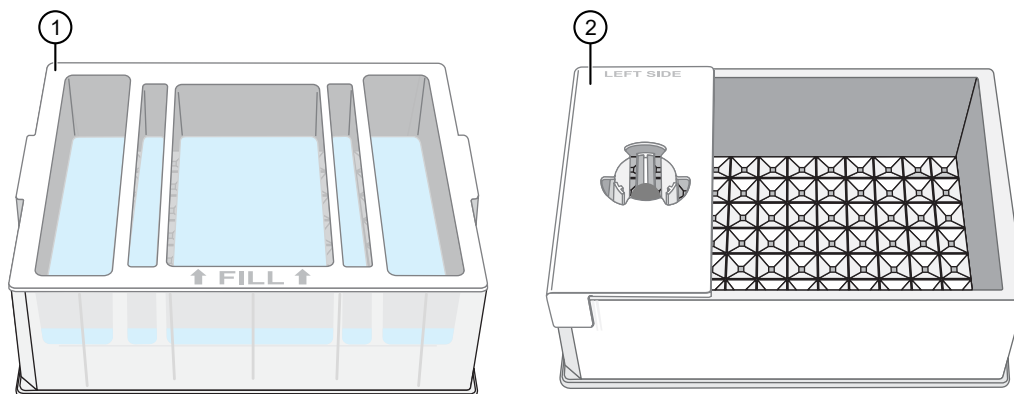

Figure 19
- ⑩ 1,000 µL Flexible Channel Arm™ (FCA) Disposable Tips Rack × 15
**IMPORTANT!** When assembled correctly with the troughs, the text stamped on the inserts should be legible and oriented the correct side up (see Figure 19).